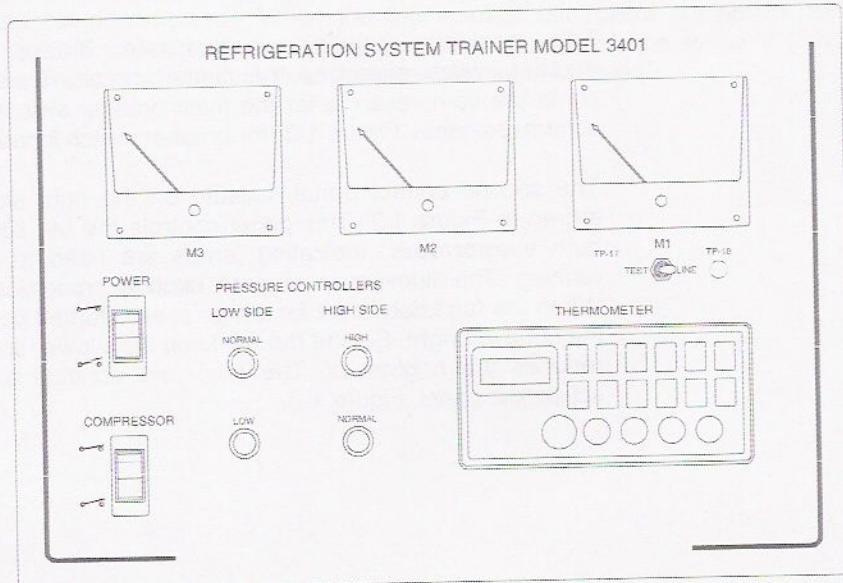
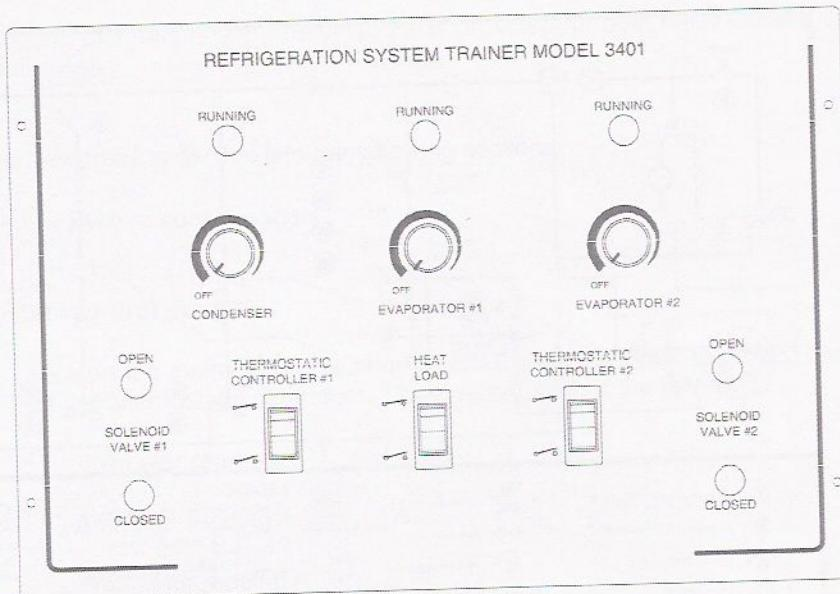
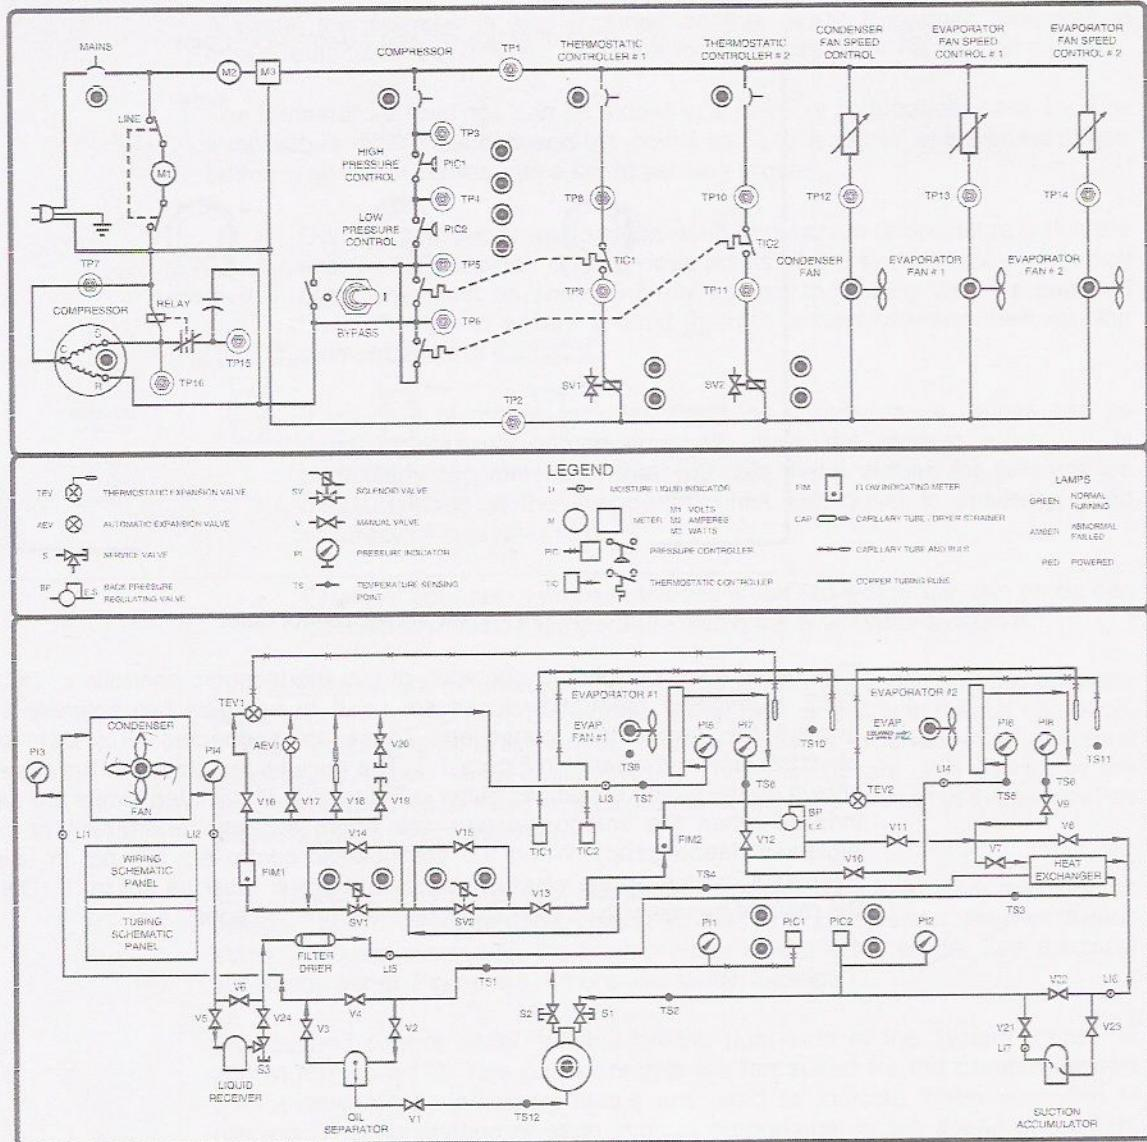

Figure 1-1. The main control panel.
Figure 1-2. The second control panel.
Figure 1-3. The schematic (electrical and tubing) panel.
The Refrigeration System Trainer is equipped with two control panels and a schematic panel. These panels are used to monitor and control the operations required for refrigeration training. The main control panel, mounted on the left side of the system trainer, is shown in Figure 1-1. This panel contains three meters: an ac voltmeter (M1); an ac ammeter (M2); and a wattmeter (M3). These meters are used to monitor the electrical system of the trainer. The meters are wired into the system as shown on the schematic panel, Figure 1-3.
This panel also includes two illuminated breaker switches. The mains input breaker switch energizes the control circuit. The compressor breaker switch starts the compressor after the main breaker switch is turned on. See electrical schematic panel, Figure 1-3, for breaker switch location.
The second control panel, located on the right side of the system trainer, is shown in Figure 1-2. This panel controls the fan speed for the condenser and both evaporators. Indicating lamps are used to indicate when each fan is running. The illumination of each lamp is proportional to the speed of the fan. When the fan knob is set for a high speed (turned counterclockwise near "OFF"), the lamp is bright. Setting the fan knob for a lower speed (knob turned clockwise) reduces the brightness. The fans and controls are shown on the electrical schematic panel, Figure 1-3.
This panel also controls the operation of two thermostatic controllers, TIC1 and TIC2. Illuminated breaker switches are used to energize two solenoid valves through the thermostatic controllers. These are connected as shown on the electrical schematic panel in Figure 1-3. The devices are placed in the system as shown on the tubing schematic panel in Figure 1-3. Illuminated lamps are used to indicate when the solenoid valves are open (solenoid energized) or closed (solenoid deenergized). When the thermostatic controllers are not in use, the "BYPASS" switch on the electrical schematic panel must be set to "I" (ON) and the manual bypass valves over the solenoids must be open.
The schematic panel, as shown in Figure 1-3, is located on the left hand side of the system trainer, directly above the main control panel. This panel shows the electrical and tubing schematics of the system trainer.
10. With the probe, measure and record the temperatures at TS1 and TS2. The temperature test point locations are shown on the schematic panel (tubing section) in Figure 1-3.